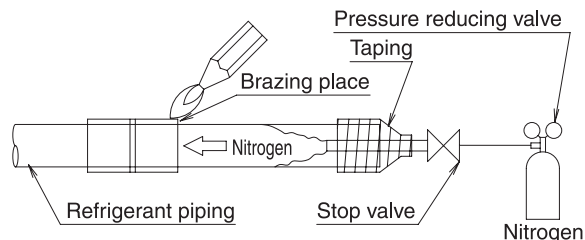

Fig. 13
- Before brazing refrigerant piping, have nitrogen flow through the refrigerant piping and substitute air with nitrogen (NOTE 2) (**Refer to Fig. 13**). Then, carry out brazing (NOTE 3).